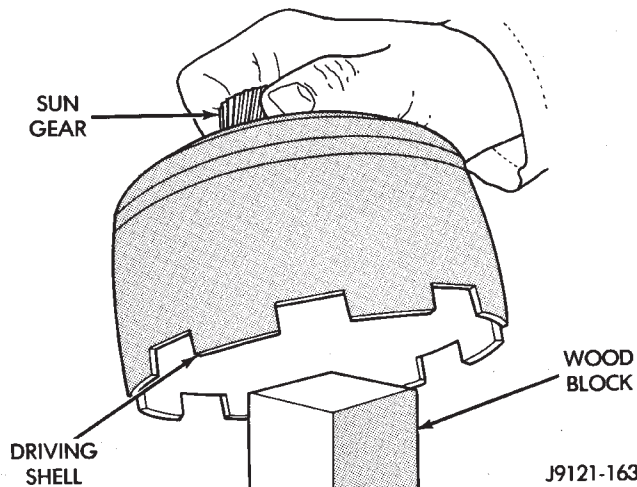

Fig. 155 Supporting Sun Gear On Wood Block
(10) Position wood block on bench and support sun gear on block (Fig. 155). This makes it easier to align and install sun gear lock ring. Keep wood block handy as it will also be used for geartrain end play check.